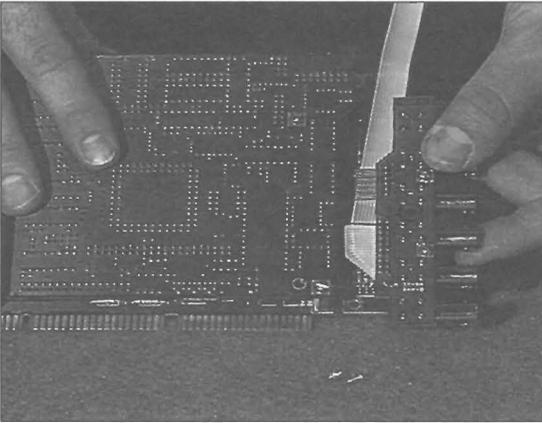

Figure 5
- 5 Attach the Flyer BNC connector board to back of the Video Toaster 4000. The ribbon cable will stick out the top of the Toaster, between the back of the Toaster card and the mounting bracket. Secure the BNC card in place with its 2 screws. See Figures 5 and 6.